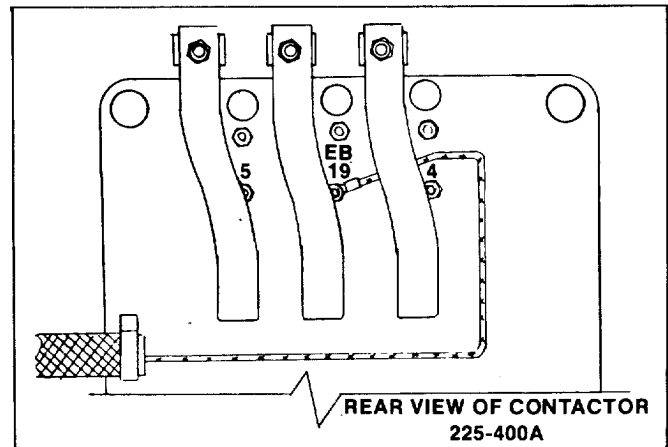
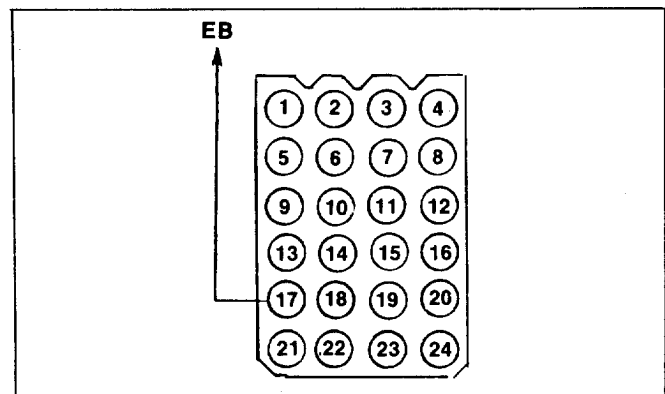

Figure 1. 225-400 Amp Switch
Figure 2. Contactor Harness Plug
1. Add lead T019-1859-19258 to terminal 19 (EB) on rear of contactor. See Figure 1.
2. Place terminal of lead over existing nut at connection 19 (EB). Do not remove or loosen the present nut at location 19 (EB).
4. Route lead through contactor harness to cavity 17 in the contactor harness plug. See Figure 2. Secure with tie wraps (X-468-1).